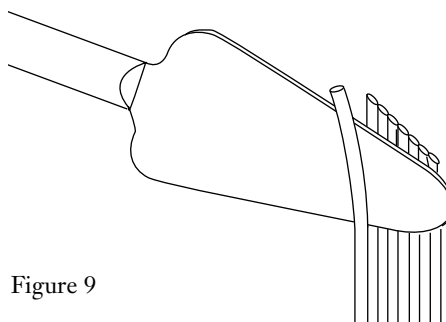

Figure 9
5.5 Using a spatula or finger nail, start to separate the longest fiber away from the rest of the ribbon (Figure 9).